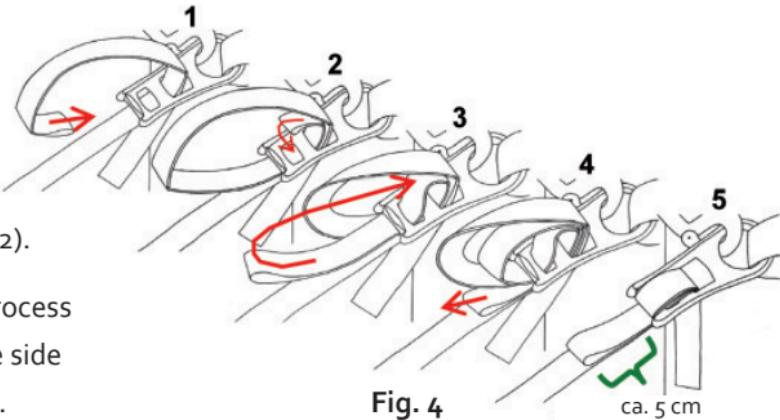

Fig. 4
The tightening system of the Slackline is based on a self-locking 5:1 pulley system. The affixation of the Slackline is done by the so called Slack-Locker principle (Fig. 4).
- Pick up the Slackline at least 50 cm from one end and run the folded line two times from bottom to top through the big square-shaped opening of the Slack-Ring (Fig. 4, 1–2).
- To facilitate the further threading process simply fold the emerged loop to one side and continue as shown in Fig. 4, 2–5.
- Pick up the Slackline about 1 m (10/15 m SlackTivity, 10 m Soft 'n Slack) resp. 2 m (25/35/45 m SlackTivity and 18 m Soft 'n Slack) from second fixed-point 2 and attach the single Slack-Ring to the line by using the Slack-Locker principle (see Fig. 4).